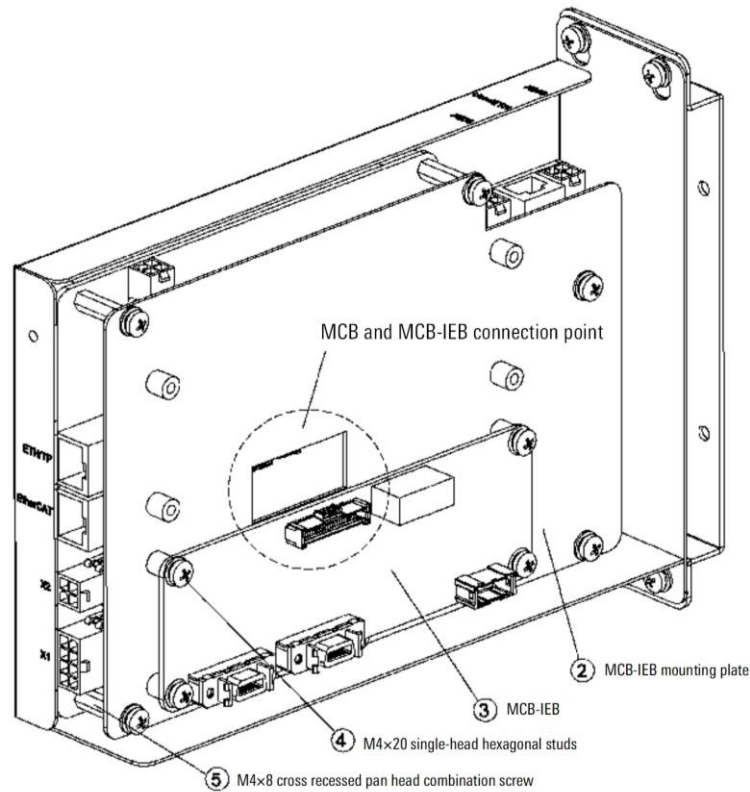

Figure 2-7 Install MCB-IEB
- Step3. Pass the ② MCB-IEB mounting plate through 5 ④ M4×20 single-head hexagonal studs and 5 ⑤ M4×8 cross recessed pan head combination screws are fixed on the MCB, and ③ MCB-IEB is passed through 4 ⑤ M4×8 cross recessed pan head combination screws fixed on ② MCB-IEB mounting plate, refer to Figure 2-7.